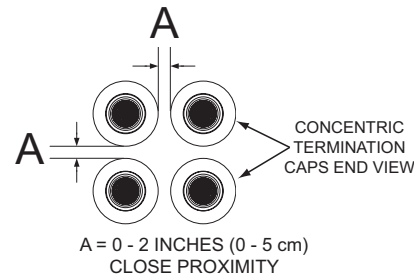
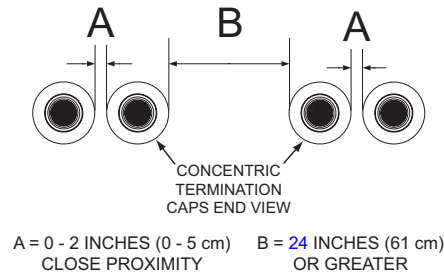
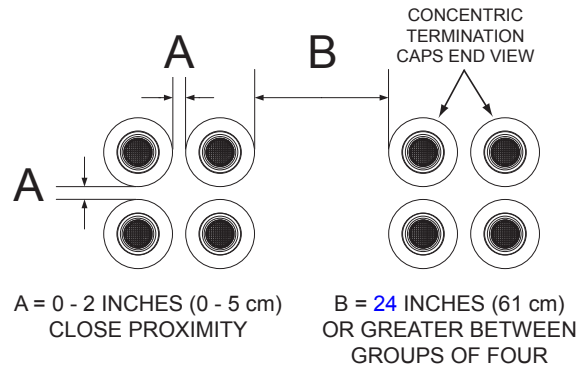
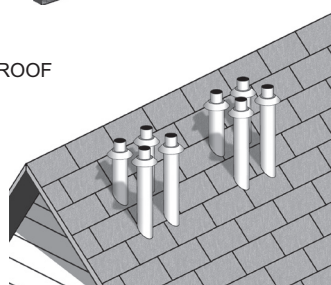

Figure 33. Four Concentric Terminations
Figure 34. Four Concentric Terminations
Figure 35. Eight Concentric Terminations
Figure 38. Eight Concentric Terminations
1. When installing four concentric terminations through a roof or through a sidewall in close proximity they may be arranged into stacked rows of two as shown in *Figure 33* (page 36) or lateral rows of two as shown in *Figure 34* (page 36).
1. When installing multiple groups of concentric terminations through a roof or through a sidewall in close proximity, they can be installed into stacked groups of four as shown in *Figure 35*. Lateral groups of four as shown in *Figure 34* may be a more convenient installation arrangement for multiple groups depending on available space.
Four concentric terminations may be installed in close proximity as shown in *Figure 37*. See *Figure 33* (page 36) and *Figure 34* for detailed information on clearances and additional arrangement options.
Eight concentric terminations may be installed in two stacked groups of four, in close proximity, as shown in *Figure 38*. See *Figure 35* (page 36) for detailed information on clearances.
Lateral groups of four as shown in *Figure 34* may be a more convenient installation arrangement for multiple groups depending on available space.